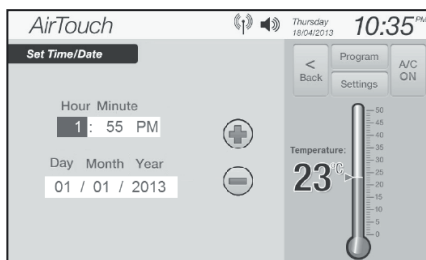

Figure 29.
- Hour, Minute, AM/PM, day, month and year fields will be shown on the screen. Touch the field which need to be modified, then touch  or  button to change the value (Figure 29).